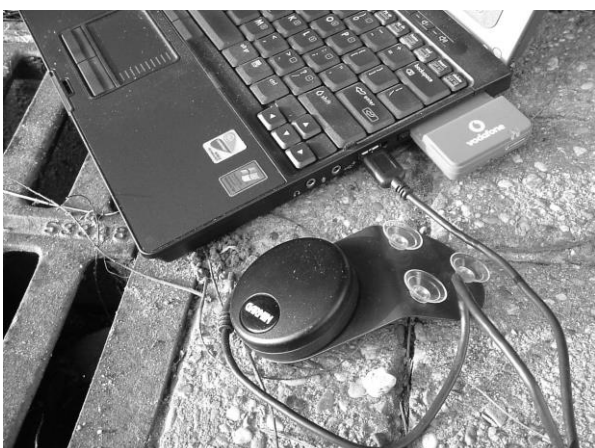

Figure 3.5.1
- The Garmin GPS 18x² antenna connected to an available USB port as depicted in figure 3.5.1;